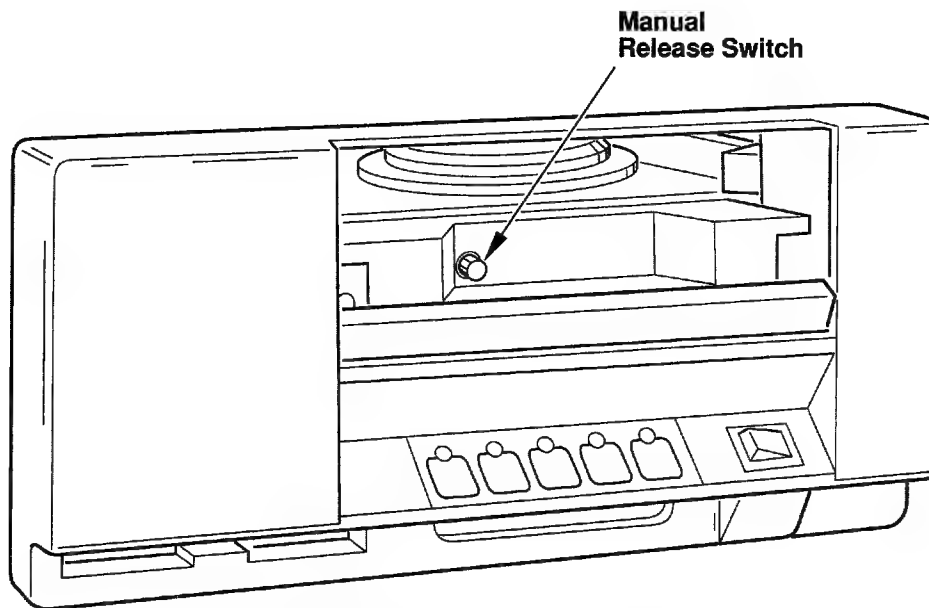

Figure 3-2. Location of Manual Release Switch
4. Press the manual release switch, located behind the front panel door on the bottom left side (see Figure 3-2), and simultaneously rotate the supply hub clockwise until the tape reel locks in place.
4. Press the manual release switch, located behind the front panel door on the bottom left side (Figure 3-2), and simultaneously rotate the supply hub counterclockwise until the tape reel rotates freely and can be removed from the drive.